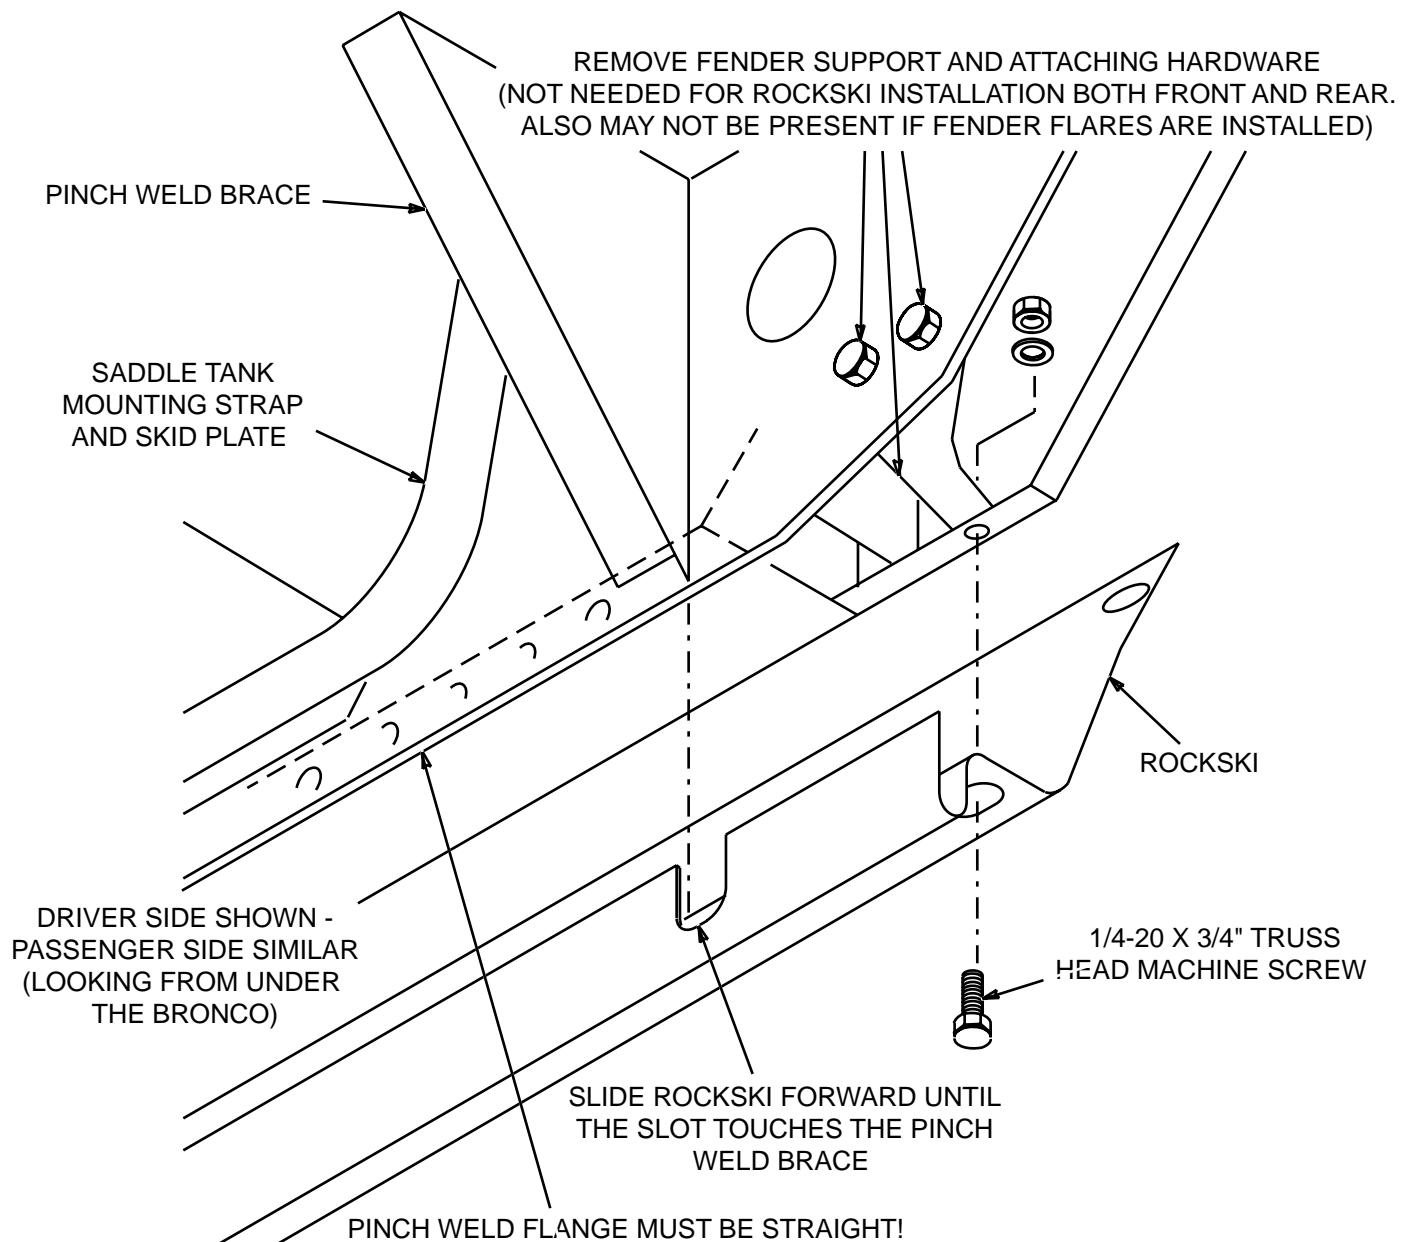

Figure 4
1. Hold the Rockski up to the rocker panel and align the Rockski right and left, making sure that the notch in the inside nearest the front fender fits around the brace on the backside of the rocker panel pinch weld. Push the Rockski as far forward as the notch will allow as shown in Figure 4.